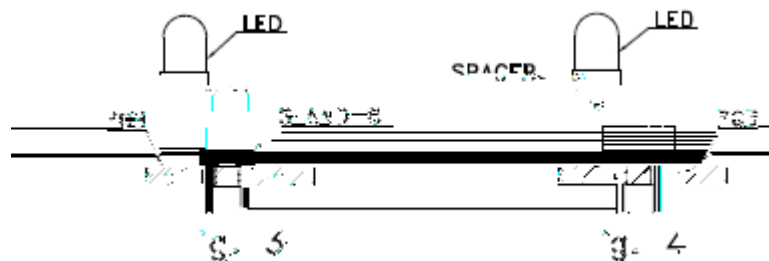

FIG. 1
1. The lead pitch of the LED must match the pitch of the mounting holes on the PCB during component placement. Lead-forming may be required to insure the lead pitch matches the hole pitch. Refer to the figure below for proper lead forming procedures (Fig.1).